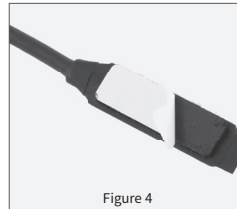

Figure 4
12. Peel off the paper backing on one side of the Velcro® adhesive strip and press it into place on the back side of the RPS (Figure 4).